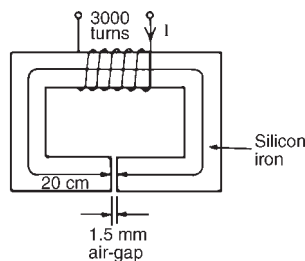

Figure 7.7
- 17 For the magnetic circuit shown in Figure 7.7 find the current I in the coil needed to produce a flux of 0.45 mWb in the air-gap. The silicon iron magnetic circuit has a uniform cross-sectional area of 3 cm^2 and its magnetization curve is as shown on page 78.